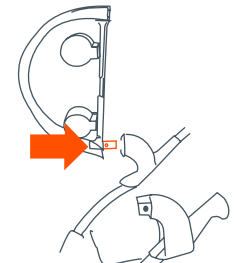

Fig. 10a
- To attach the child tray:** Push the angled tray onto the post at the end of the right armrest, until locked into place (Fig. 10a).